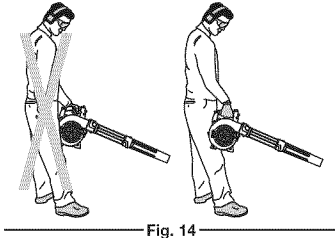

Fig. 14
WARNING: After starting the unit, always stand on the left side of the unit to operate it as shown in figure 14 to keep from blocking the air intake.
- The unit is in the right hand and on the right side of the body. Do not block the air intake which will affect the unit's performance (Fig. 14).
Hold the blower with the right hand. Do not stand on the right side of the blower when operating the unit (Fig. 14). If you do, you will be blocking the air intake and this will affect the unit's performance. Instead, be sure to stand on the left side of the unit to maximize the unit's efficiency (Fig. 14).